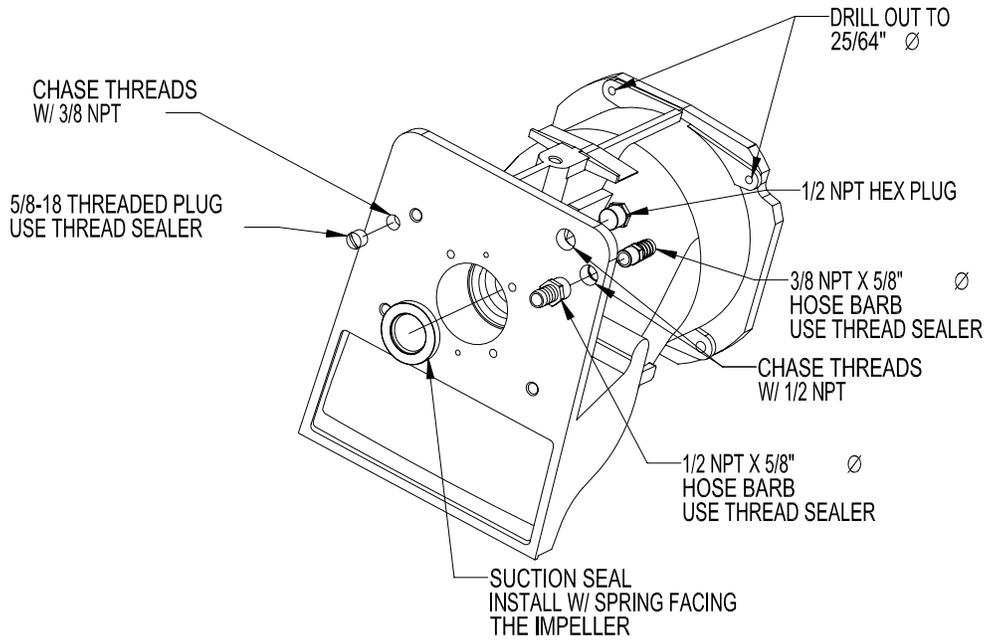

FIG 1
12. Drill out the top two holes shown in FIG.1 25/64" diameter.
15. Use a 3/8 NPT tap to chase the threaded hole where the reverse cable once came through FIG 1. Tap the hole deep enough to install the 5/8-18 threaded plug, use thread sealer.
16. Use 1/2 NPT tap to chase the water cooling hole and the steering cable hole FIG. 1
17. Install the 1/2 NPT hex pipe plug from the outside as shown FIG. 1, use thread sealer.
18. Install the 1/2 NPT x 5/8 hose barb from the inside as shown FIG.1, use thread sealer. Photo 9
19. Install the 3/8 NPT x 5/8" hose barb into the threaded end of the 1/2 NPT x 5/8 hose barb as shown in FIG.1. Photo 10
20. Install the suction seal into the drive housing as shown FIG.1 make sure you install it with the spring facing the impeller (away from the engine).